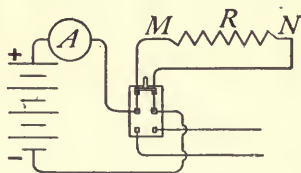

FIG. 268.
in charging can be obtained upon *discharging*. Therefore the *efficiency* of a good storage cell is about 75 per cent. Fig. 268 represents a storage battery connected to charg-
290. Energy and Power of a Storage Cell.—In a storage cell, the electrical energy of the charging current is transformed into *chemical* energy by the action of electrolysis. It is this chemical energy that is transformed into the energy of the electric current when the cell is discharged. The *capacity* of storage cells is rated in "ampere hours," a 40 ampere hour cell being capable of producing a current of 1 ampere for 40 hours, or 5 amperes for 8 hours, etc. The production and extensive use of electric currents have made necessary accurate methods for measuring the *energy* and *power* of these currents. To illustrate how this is accomplished, let us imagine an electric circuit as represented in Fig. 268. Here four storage cells in series have an E.M.F. of 8 volts and in accordance with Ohm's law produce a current of 2 amperes through a resistance in the circuit of 4 ohms. Now the work done or energy expended by the current in passing through the resistance between the points *M* and *N* depends upon three factors (1) the E.M.F. or *potential difference*; (2) the *current intensity* and (3) the *time*. The energy is measured by their product. That is, *electrical energy = potential difference × current intensity × time*. This represents the electrical energy in *joules*, or
In the circuit represented in Fig. 268 the energy expended between the points *M* and *N* in 1 minute (60 seconds) is $8 \times 2 \times 60 = 960$ joules.